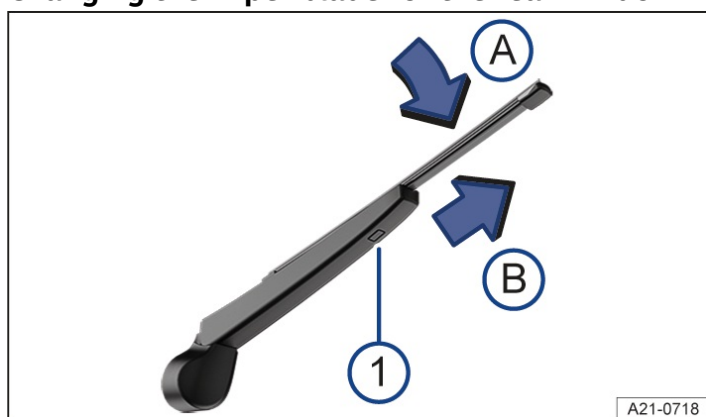

Fig. 2 Changing the wiper blade for the rear window.
① Release button for the wiper blade.
3. Press and hold the release button → Fig. 2 ①.
4. Tilt the wiper blade in the direction of the wiper arm → Fig. 2 ① and pull it off in the direction of the arrow ② at the same time. You may need to use some force to do this.
5. Insert a new wiper blade with the same length and design onto the wiper arm against the direction of the arrow. Push it on until it engages → Fig. 2 ②. The wiper blade must be in folded-down position to do this → Fig. 2 ①.